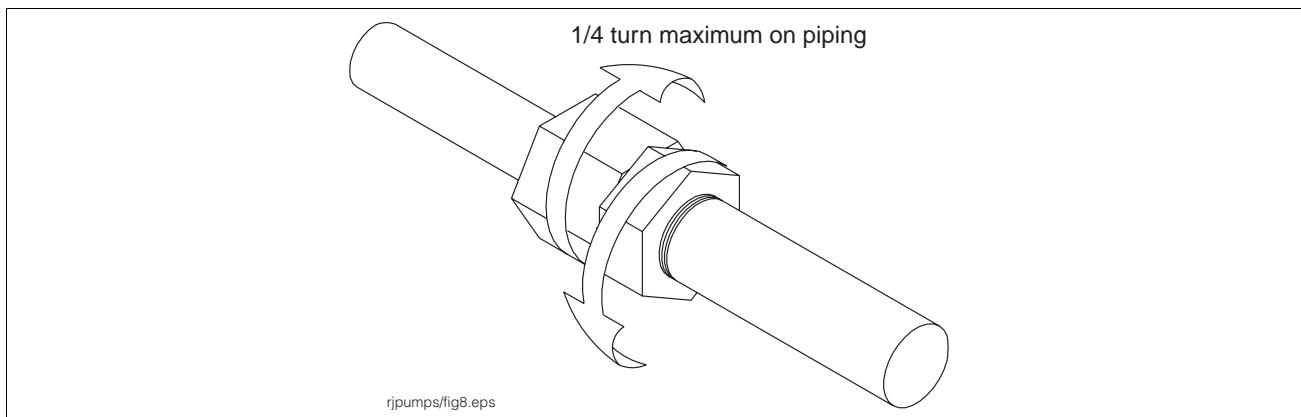

Figure 10. Loosening locking nut
4. Loosen the clinch assembly on the column pipe by unscrewing the set screw in the side of locking nut, then backing off the locking nut (see Figure 10).